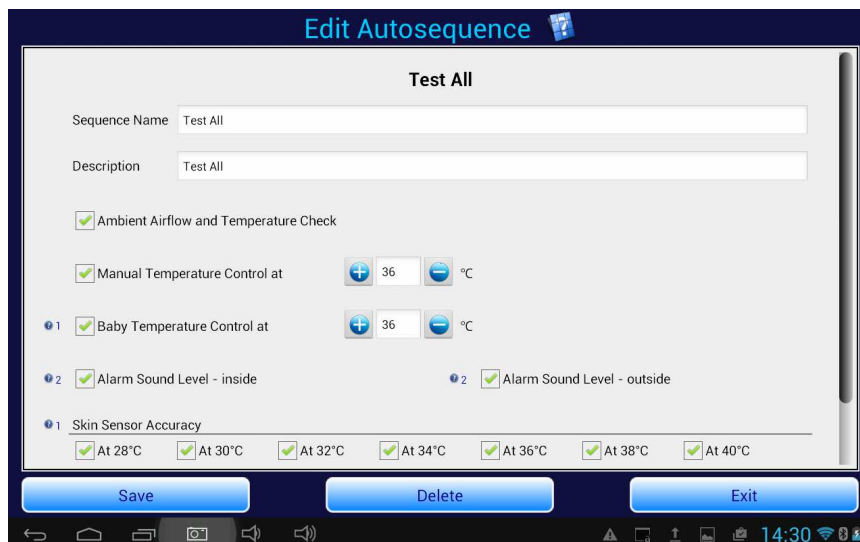

Figure 22: Edit Auto Sequences
**Figure 22**, shown on the next page, allows Autosequences to be created, modified, recalled and saved to meet the particular needs of the user. From this screen each test parameter can be enabled as required for a test. If it is expected the test may be needed again, it can be saved as an Autosequence by entering a name into the field **Sequence Name**, entering a **Description**, and pressing the **Save** button. During an Autosequence, the parameters will be tested in the order in which they appear on the screen. This order has been selected to minimize disruption of the temperature tests by opening the radiant warmer doors at inopportune times. To enable testing of a parameter, touch its related check box. Enabled tests will display a check mark in the box.